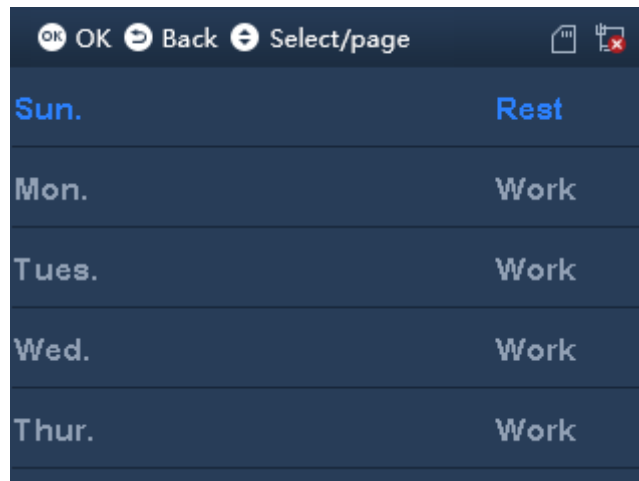

Figure 2-14
Step 1. Select Weekly, click . See Figure 2-14.